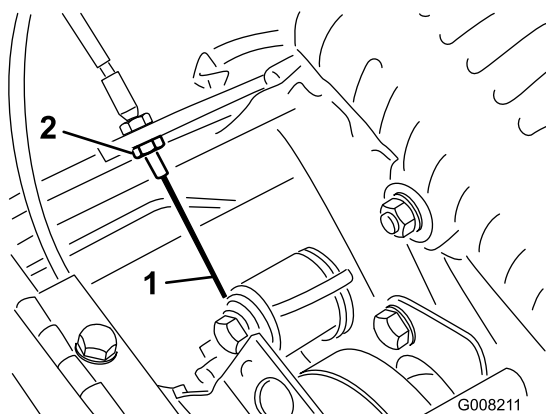

Figure 42
3. To increase the cable tension, loosen the front cable jam nut and tighten the back cable jam nut (Figure 42) until a force of 3 to 4 kg (7 to 9 lbs) is required to engage the traction control. Measure the force at the control knob.